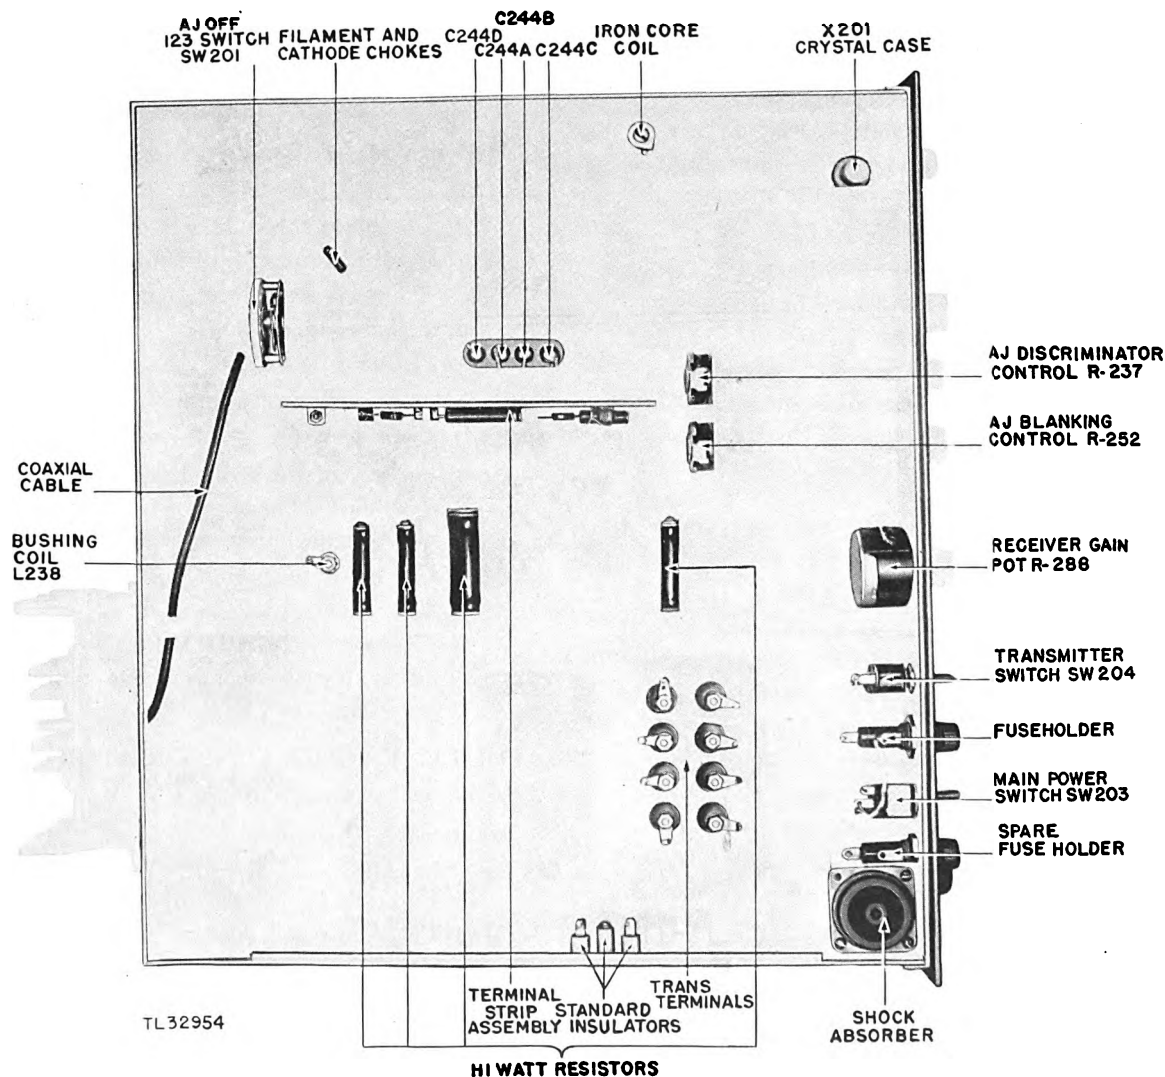

Figure 21. Underside of receiver chassis.
- (2) After the receiver chassis has been removed to the work bench, short circuit *all* capacitors whose terminals are mounted on insulated bushings. Use an insulated screwdriver.
- (3) Avoid contact with the hot glass of the tubes for at least 10 minutes after the power has been turned OFF.
- (4) Avoid contact with the hot surface of the high-wattage resistors R265, R284, R286, and R285 for at least 10 minutes after the power has been turned off (fig. 21).
*a. Location.* See figure 21.
- (c) The leads of capacitor C244 (A, B, C, and D) (fig. 21) for proper soldering.
1. General condition of coating (fig. 21). Make sure that the windings of the resistors are not exposed. Ex-
- (f) The fuse holders (fig. 21) for: